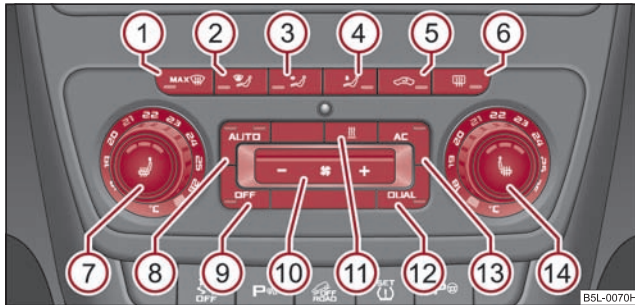

Fig. 103 Climatronic: Control elements
- Press the button  ⇒ fig. 103.
- Press the button  ⇒ page 103, fig. 103. The warning light lights up in the button.
- If the windscreen mists up, press the button  ① ⇒ page 103, fig. 103. After the windscreen has been demisted, press the button .
- Press the button  ⇒ page 103, fig. 103.